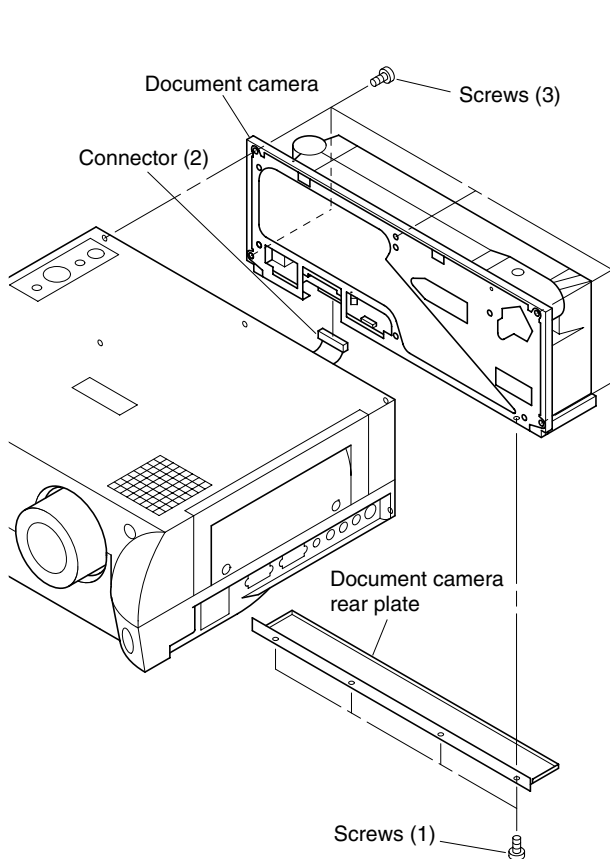

Fig. 3-1-1
1. Remove document camera. (TLP511U/E: Refer to Fig. 3-1-1.)
2. Remove top tag and remove 1 screw (1).
3. Remove 6 screws (2) and lift up top cover while pressing section A of the top cover.
4. Remove speaker connector (3) and remove top cover.
5. Remove 2 screws (4) securing speaker holder, and remove speaker from speaker holder.